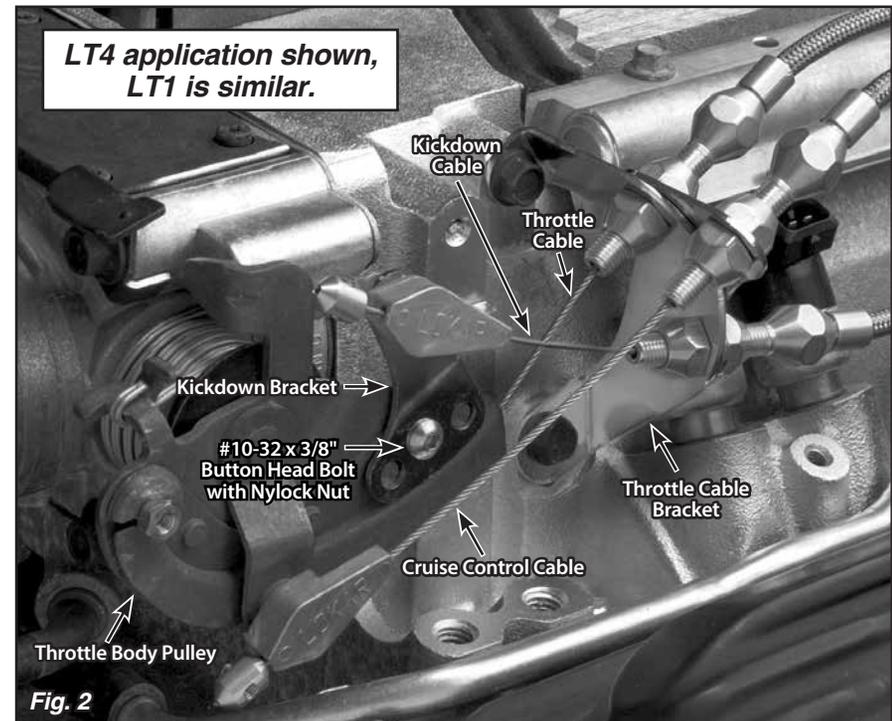

Fig. 2
**Step 2:** Install the new Lokar Throttle Cable Bracket in the same location as the original, using your original hardware, as shown in Fig. 2.
If you are using a Kickdown Cable, install it into the lower hole in the Throttle Cable Bracket. Connect it to the kickdown stud on the throttle body pulley. Adjust the Kickdown Cable as described in the Kickdown Cable Installation Instructions. Fig. 2 shows a completed installation with a Kickdown Cable and a Cruise Control Cable.